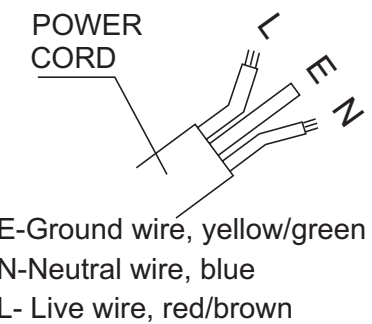

Fig. 1
1. The power cord is distinguished according to the cord color just as follows (see fig. 1):